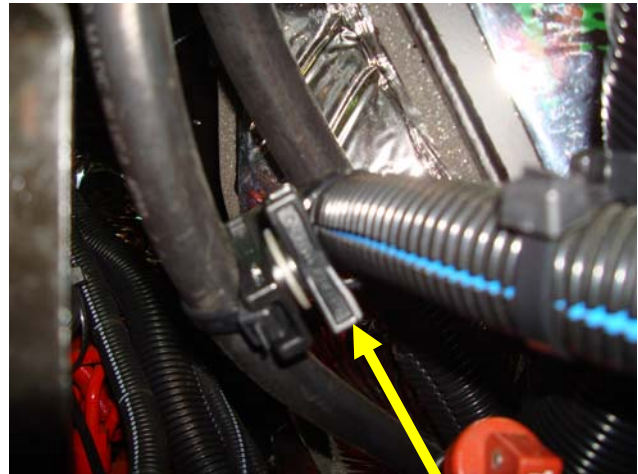

Fig. 7
9. Inspect and provide clearance between fuel line and both power steering lines with swivel and tie straps. (Only one shown in Fig. 7)